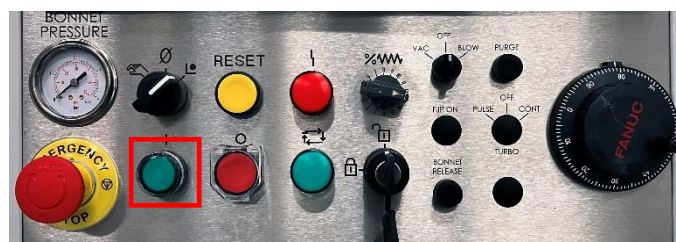

Figure 17 - CNC Drives ON switch
3. On the control panel, press the CNC “Drives ON” switch. See (Figure 17 - CNC Drives ON switch).